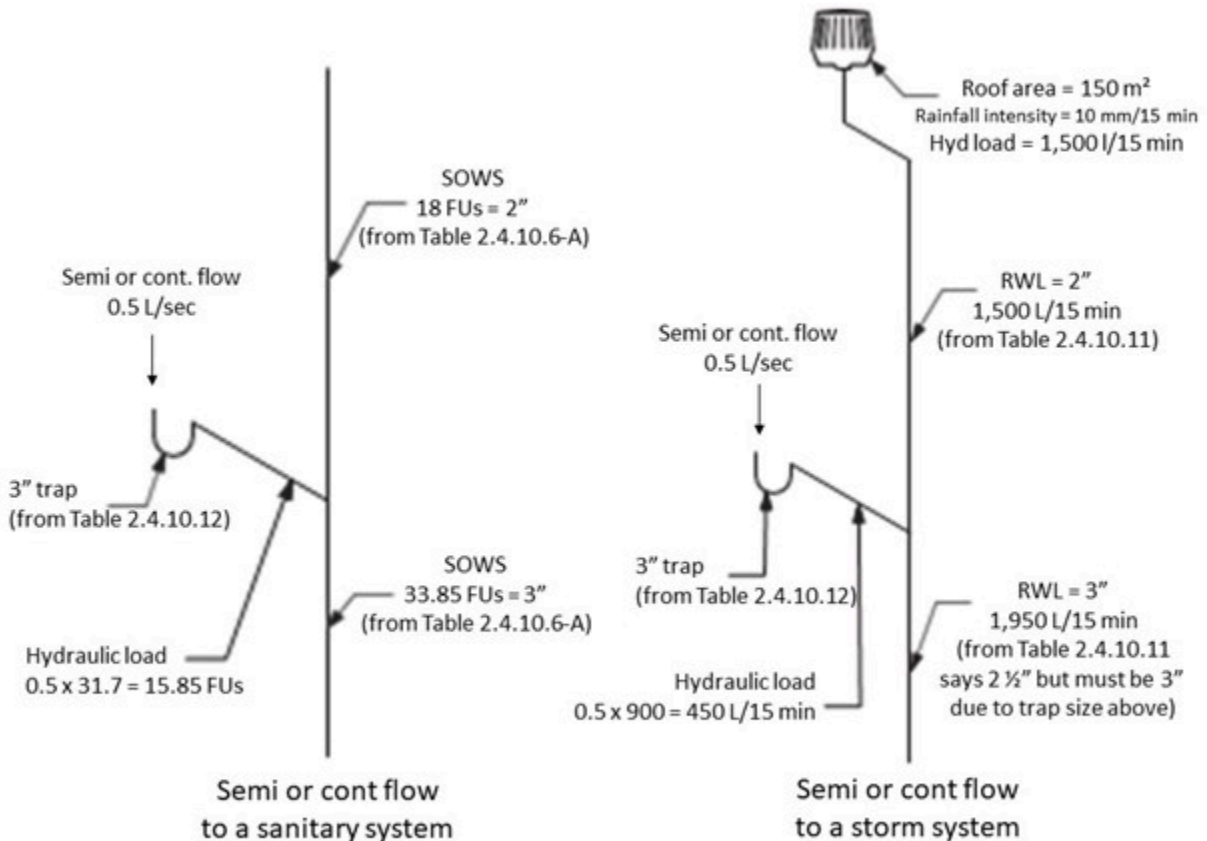

Figure 1 Semi or continuous flow fixture into a sanitary system vs a storm system
- Figure 1 Sanitary building drain and sewer by ITA is licensed under a CC BY-NC-SA licence (<https://creativecommons.org/licenses/by-nc-sa/4.0/>).